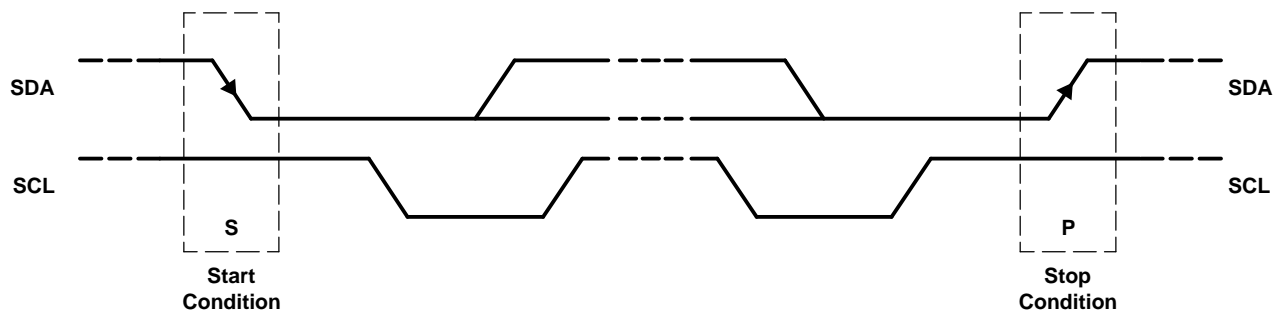

Figure 47. START and STOP Conditions
- The *master* initiates data transfer by generating a *start condition*. The *start condition* is when a high-to-low transition occurs on the SDA line while SCL is high, as shown in Figure 47. All I²C-compatible devices should recognize a *start condition*.
- To signal the end of the data transfer, the master generates a *stop condition* by pulling the SDA line from low to high while the SCL line is high (see Figure 47). This releases the bus and stops the communication link with the addressed slave. All I²C compatible devices must recognize the stop condition. Upon the receipt of a *stop condition*, all devices know that the bus is released, and they wait for a *start condition* followed by a matching address.